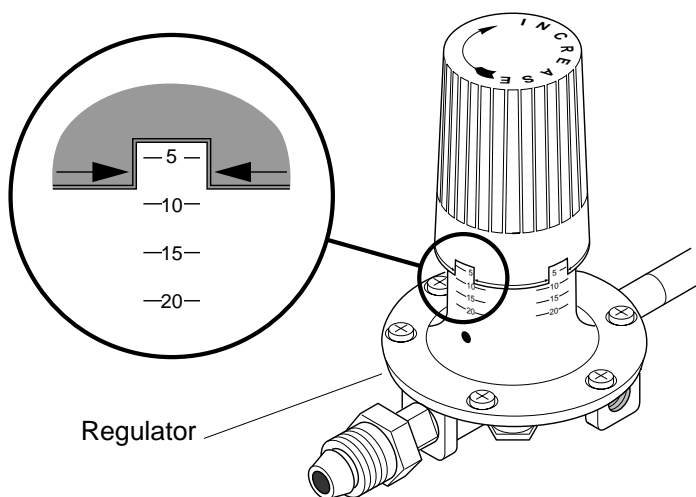

Figure 5 - Adjustable Regulator Set At 48 kPa (7 psig)
5. Adjust regulator between 48 and 138 kPa (7 and 20 psig) (see Figure 5).